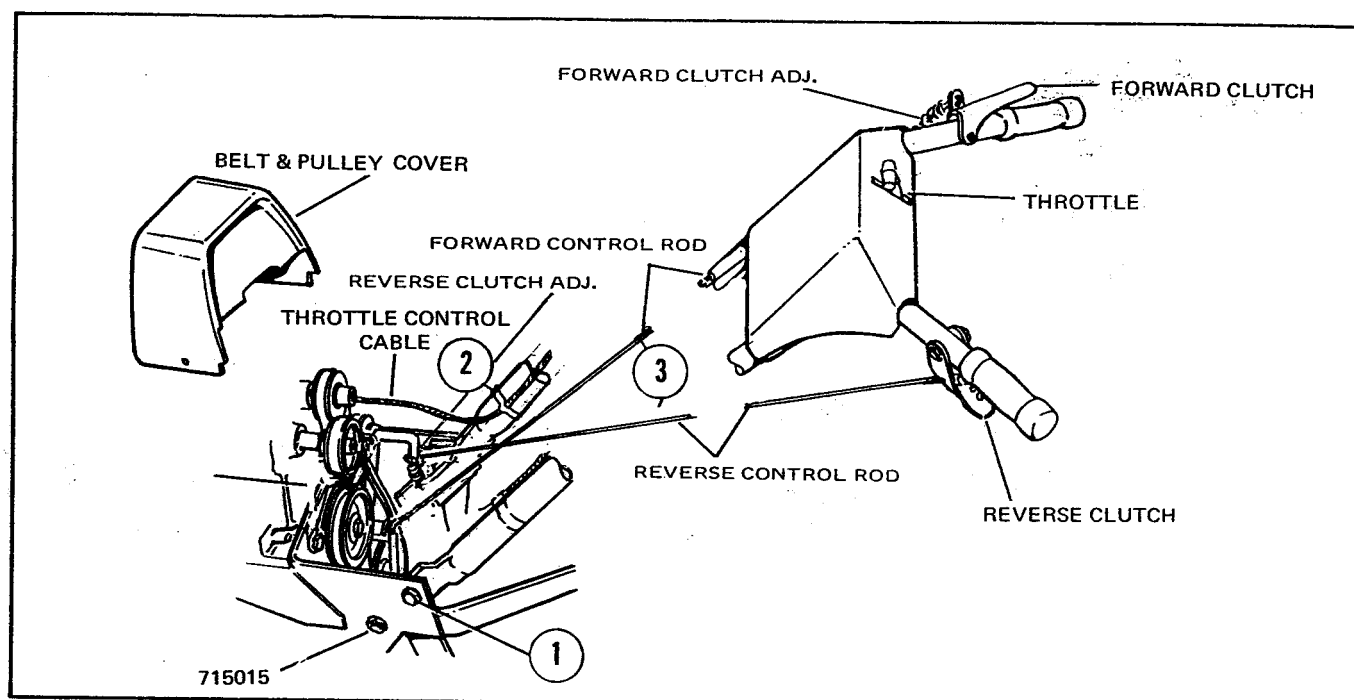

Figure 1
2. Attach the handle assembly to the handle support with the (2)  $\frac{3}{8}$ "-16 x 1" long capscrews,  $\frac{3}{8}$ " lockwashers and  $\frac{3}{8}$ "-16 hex nuts. See Item 1, Figure 1.
3. Attach the forward and reverse control wires as shown in Item 3, Figure 1. Refer to Clutch Adjustments for proper settings.
4. Remove the cable clip which holds the throttle cable to the left hand handle assembly. See Item 2, Figure 1. Insert the curved end of the throttle control on the engine throttle lever located on the right hand side of the engine. Loosen the engine throttle clip. Place the throttle